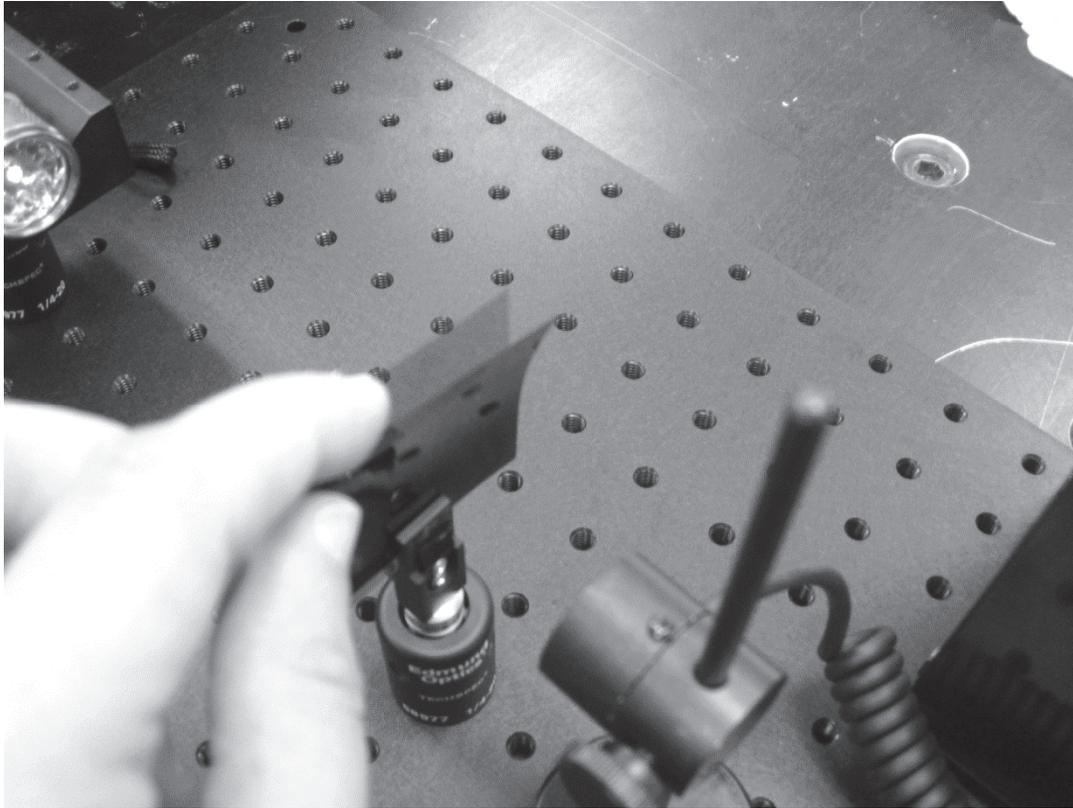

Figure 6 *Power Measurement Set-up for Combination Filters*
3. Prepare to measure three filter sets. Refer to Figure 6.